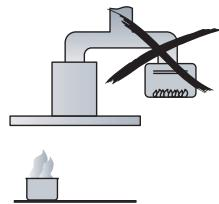

Fig. 1
- ∅ The exhaust from the range hood must not be discharged into any heating flue, which may carry combustion products from other sources. (Fig 1)